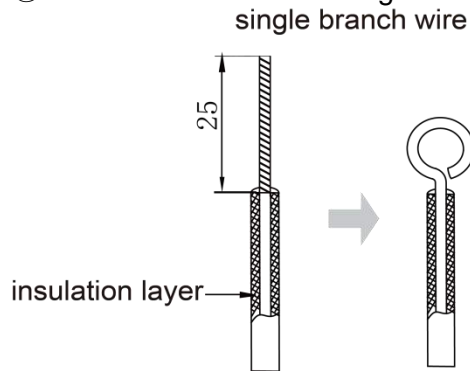
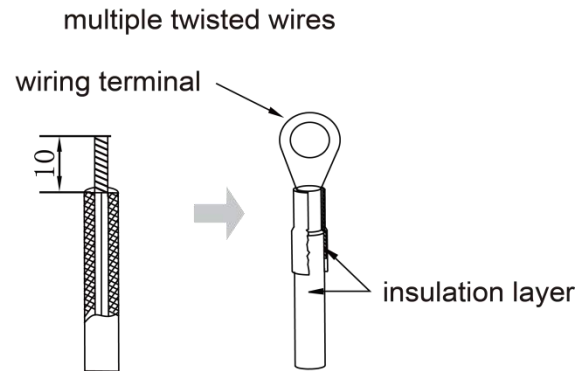

Fig 5.1.1
Fig 5.1.2
(1) The connection of wire (as shown in Fig. 5.1.1)
- ① Strip about 25mm (1 in.) insulation off the wire end with stripping tool.
- ② Remove the wiring screws from the terminal board.
- ③ Shape the tail of wire into ring with needle nose pliers with the loop matching the screw.
- ④ Use the screwdriver to tighten the terminal.
(2) The connection of stranded wire (as shown in Fig. 5.1.2)
- ① Strip about 10mm (3/8 in.) insulation off the end of stranded wire with stripping tool.
- ② Loosen the wiring screws on terminal board.
- ③ Insert the wire into the ring tongue terminal and tighten with crimping tool.